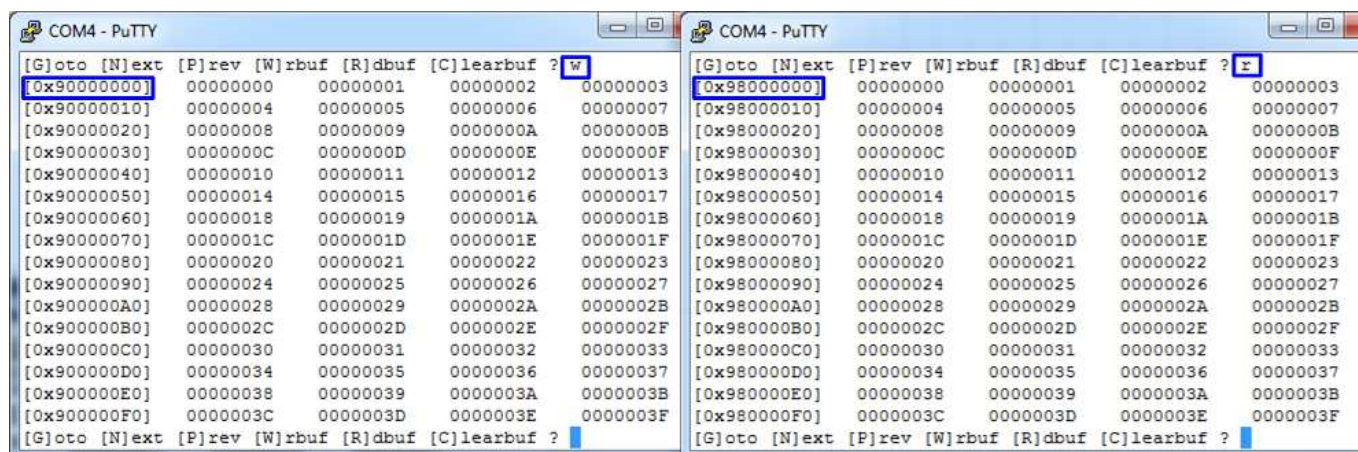

Figure 3-12 Read 256 byte data at top of write/read buffer
- 'W': this submenu is used for reading 256 byte data at top address of write buffer, as shown in Figure 3-12.
- 'R': this submenu is used for reading 256 byte data at top address of read buffer, as shown in Figure 3-12.